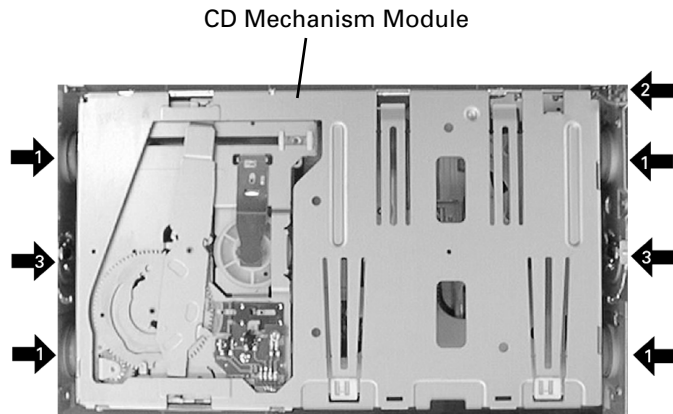

Fig.5
-  1 Remove the four dampers(Fig.5).
-  2 Disconnect the connector(Fig.5).
-  3 Remove the two springs(Fig.5).